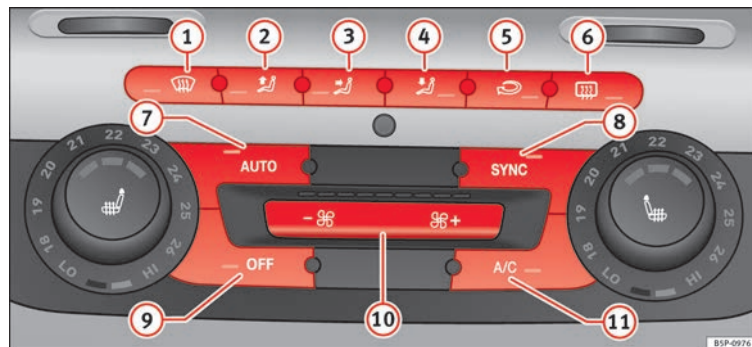

Fig. 120 On the dash panel: 2C Climatronic controls.
- To enter manual mode, press one of the buttons **» Fig. 120 1** to **5** or press the air flow control **10**. The selected function is shown on the radio or navigator display.
- Press the button **11** **» Fig. 120 5** to switch air recirculation mode on or off. It is switched on if the following symbol appears in the display **12**.